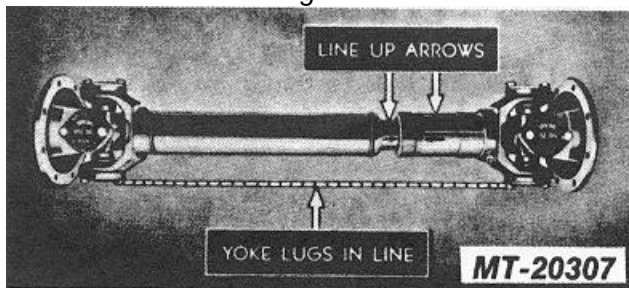

Fig. 18
2. ARROW MARKS Make sure arrow marks are stamped on the shaft and sleeve yoke before removing the slip joint (Fig. 18). If arrow marks are not readily seen, mark both members so that when reassembled they will be in exactly the same relative position, since the sleeve yoke lugs must be in the same plane as the stub ball yokes to prevent excessive vibration.